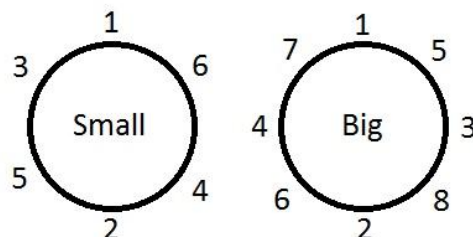

Figure 19 - Star pattern for screw torque
- 5) Once all the screws are in place, torque all screws with the appropriate torque value following a star pattern as shown on Figure 19. Respect the torque specified in Figure 20.
- 9) Once all the screws are in place, torque all screws with the appropriate torque value following a star pattern as shown in Figure 19 (p.20). Respect the torque specified in Figure 20 (p.21);
- 5) Once all the screws are in place, torque the screws with the appropriate torque value following a star pattern as shown on Figure 19 (p.20). Respect the torque specified in Figure 20 (p.21);